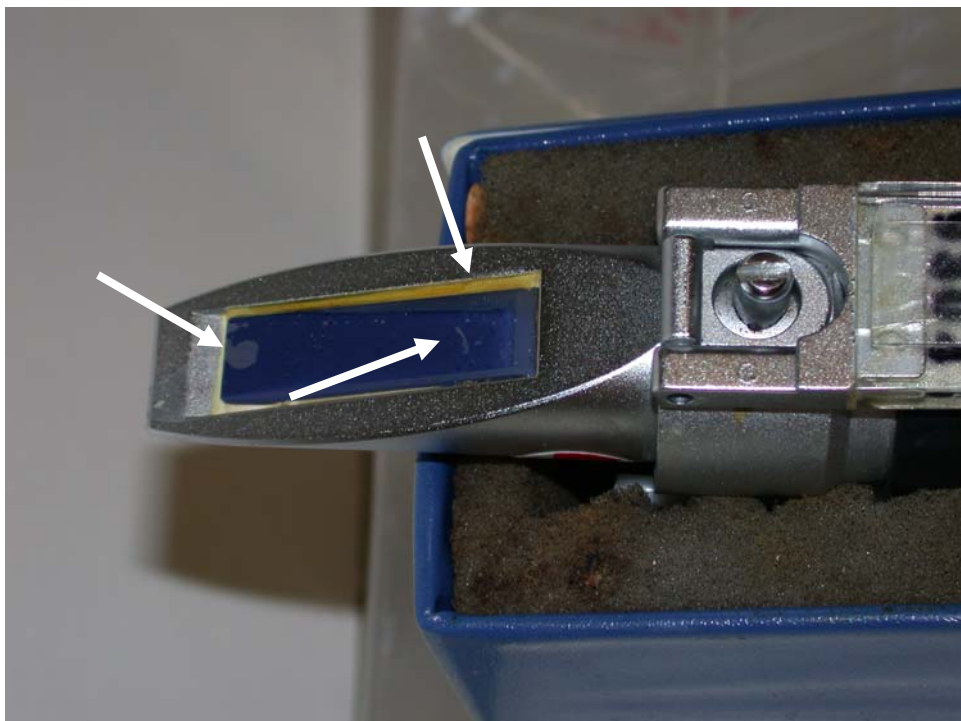

Figure 9. Poorly maintained refractometer with a damaged prism. Scratches, separations, and detached prism noted by arrows.
1. Inspect the refractometer prism for scratches, chips, separations or other aberrations that may interfere with proper readings (Fig. 9). If dusty, rinse with water and wipe with a clean, soft, lint-free cloth.